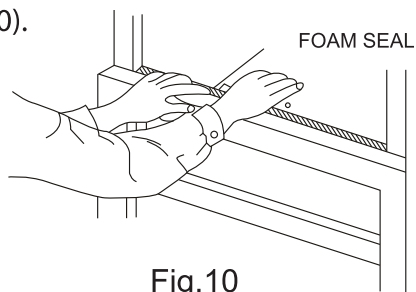

Fig.10
D. Cut window sash seal foam and insert it in the space between the upper and lower sashes (Fig. 10).